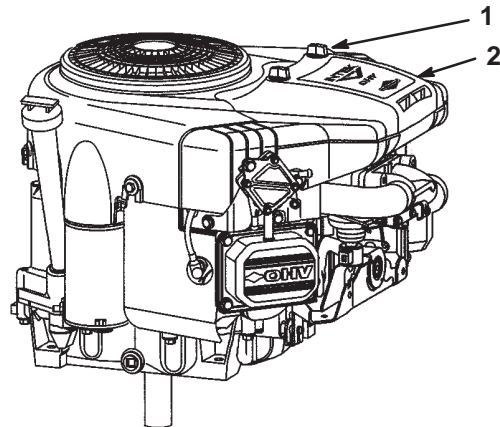

Figure 33
3. Clean around the air cleaner to prevent dirt from getting into the engine and causing damage. Unscrew the knobs and remove the air cleaner cover (Fig. 33).